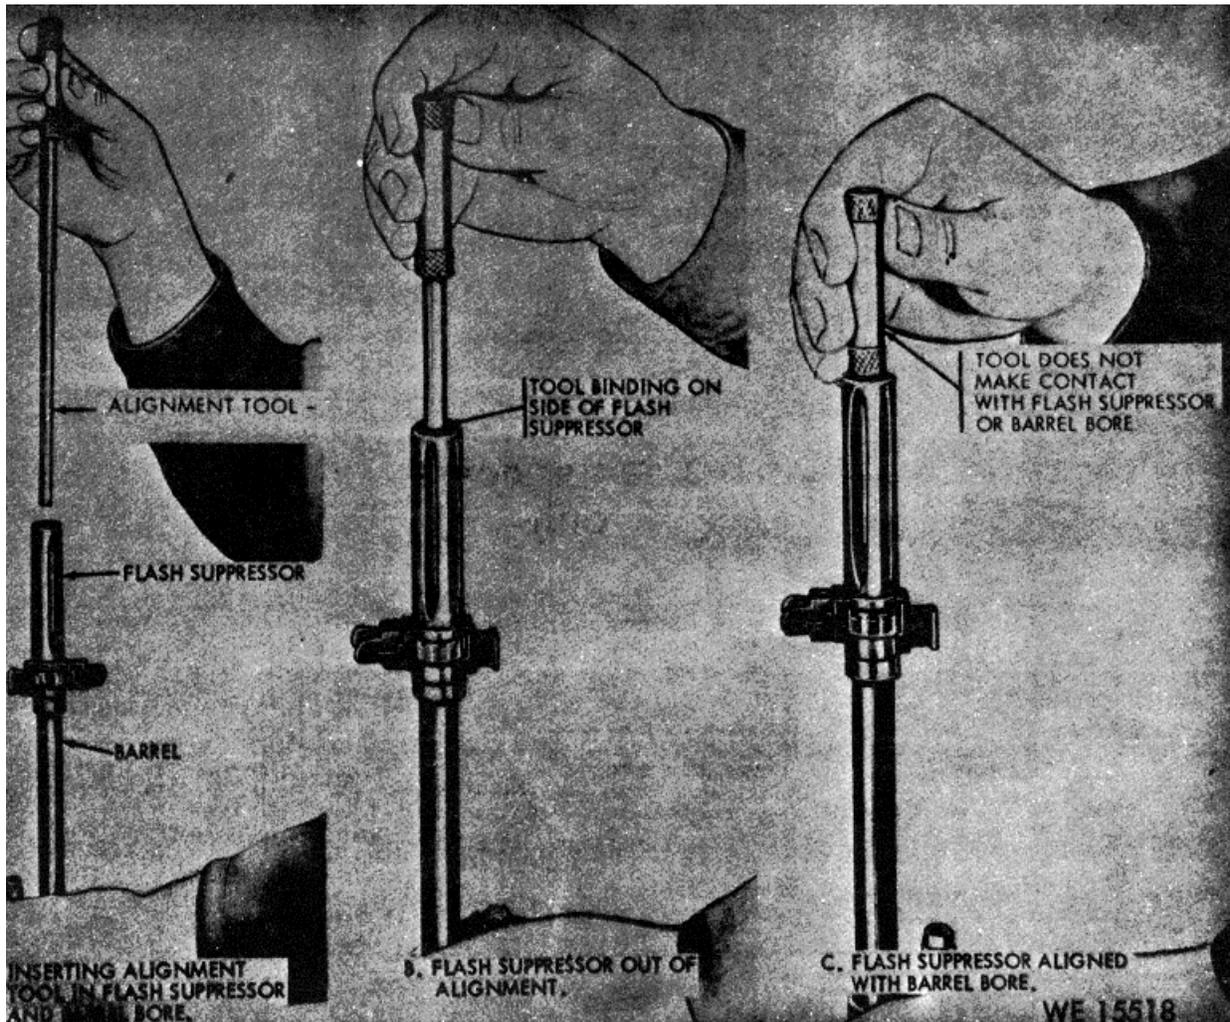

Figure 8-3. Checking alignment of flash suppresser with alignment tool.
c. *Flash Suppressor.* Use alignment tool (fig 8-3) to check alignment of flash suppresser with